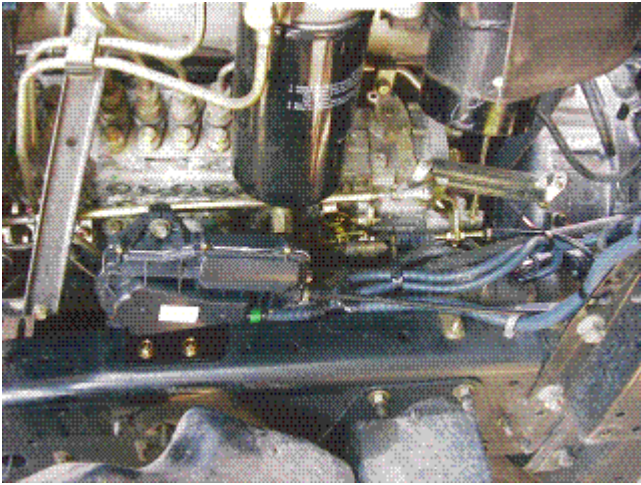
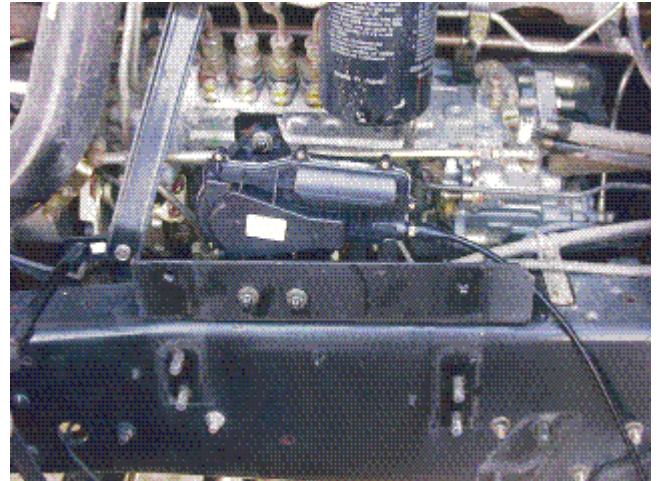

FIGURE 7a UD1800/UD2000/UD2300
FIGURE 7b UD2600/UD3000
7. Loosely install the stop motor and bracket on the left frame rail. See Figure 7a for UD1800/UD2000/UD2300 and Figure 7b for UD2600/UD3000. Do not tighten at this time.